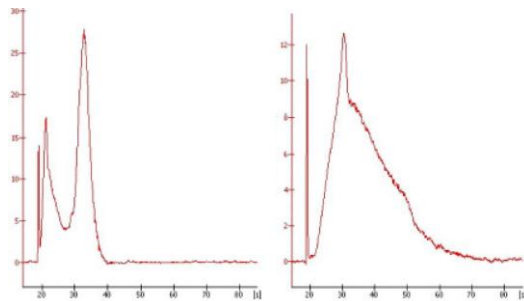
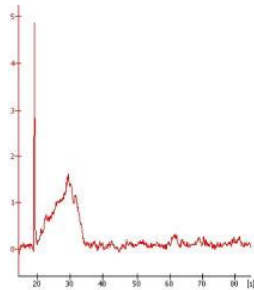
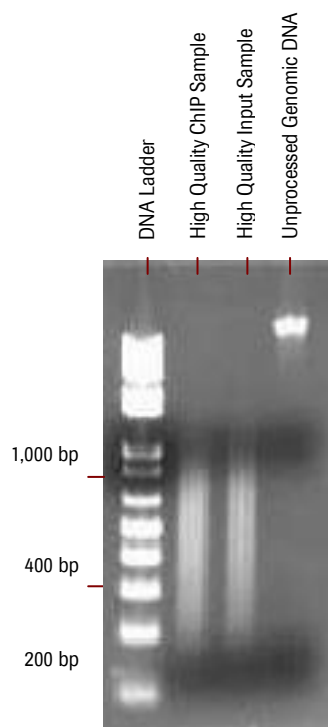

Figure 2: Examples of Bioanalyzer Traces of Nondegraded Samples
Figure 3: Example of Bioanalyzer Trace of a Degraded Sample
Figure 4: Example of Agarose Gel Electrophoresis for Samples of Good Quality
3. Review Bioanalyzer traces (Figure 2 and Figure 3) or agarose gels (Figure 4) for sample degradation. Degraded samples detected using the Bioanalyzer appear as significantly lower intensity traces with the main peak area shifted to the left with typically more noise in the trace.